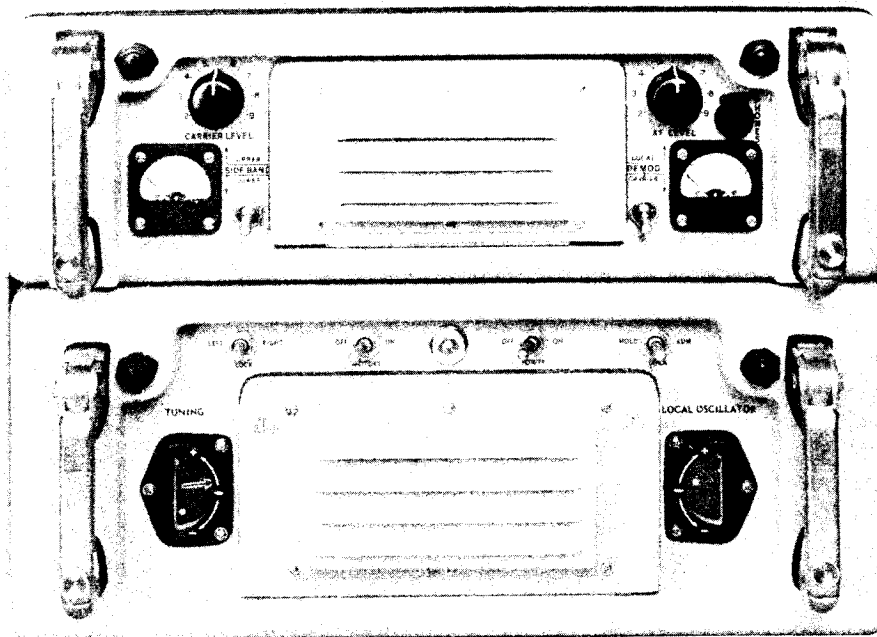

Figure 3-4. CV-216/URR, Front View, Shock Mounts Removed, Relay Rack Mounting Brackets Attached
c. RELAY RACK MOUNTING. (See Figure 3-4).—The following is the method of preparing the equipment for mounting in a standard 19" relay rack: